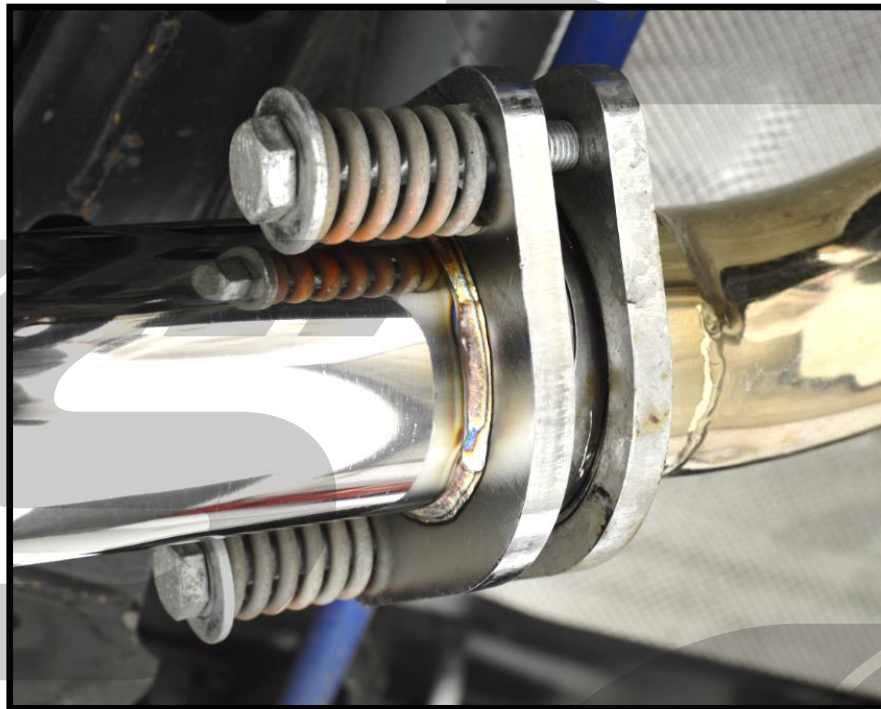

Figure 3g
- i) **Figure 3g shows the assembled mid-section and axle-back exhaust.** For complete axle-back exhaust installation instructions please continue to page 8.